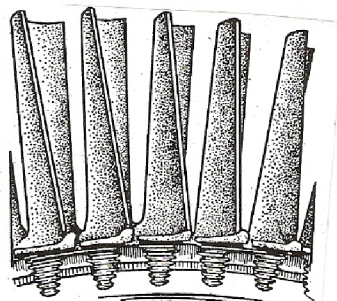

Fig.2
c) What do you know about the device in fig.2?